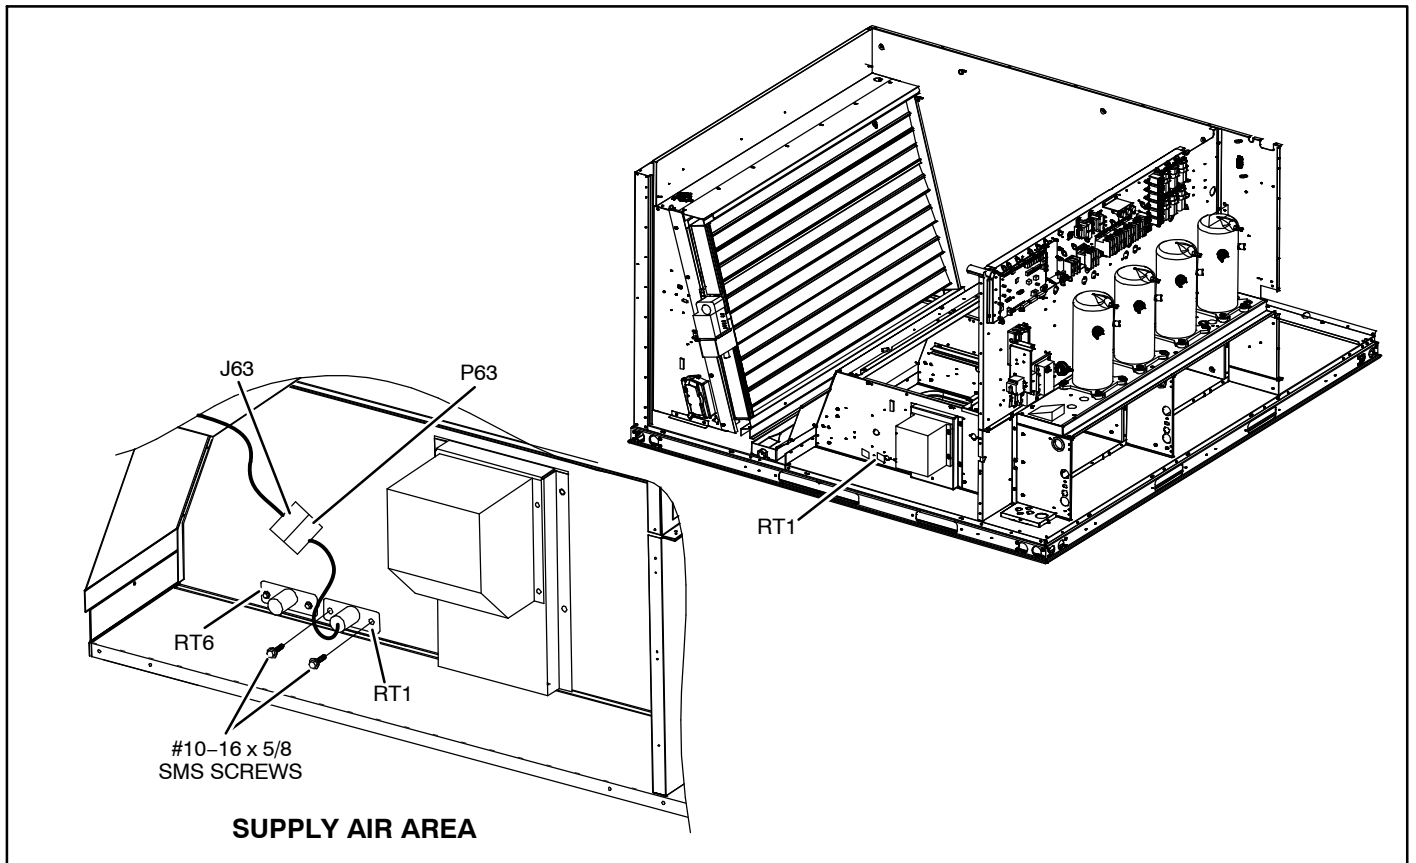

Figure 6. Install RT1 Sensor
4. Install RT1 sensor (on bottom of blower compartment) with two #10-16 x 5/8 SMS screws (see figure 6). Get harness J63 from bag assembly; connect one end to RT1 sensor and fit the other end through the conduit on the compressor wall. Connect J63 female terminals to the J63 male terminals from sub-assembly.